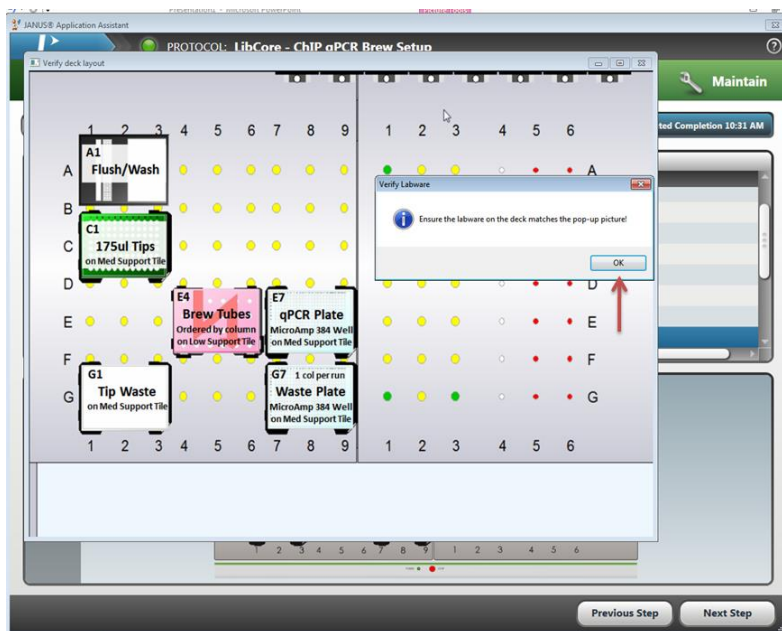
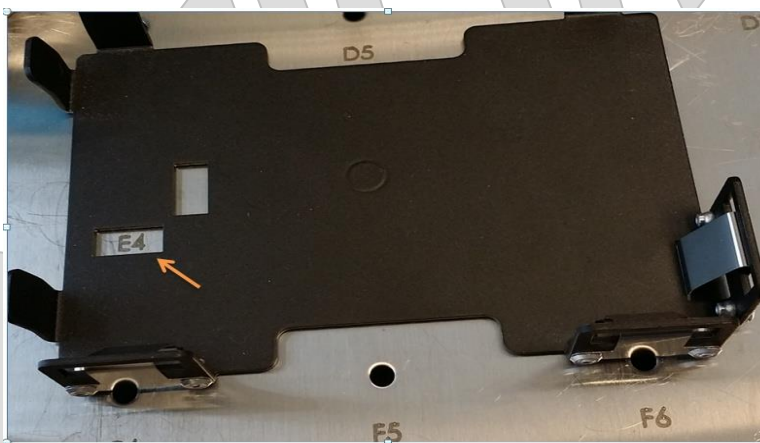

Figure 11: Deck layout
Figure 12: Correct grid position on the base
3.24. Set up the deck as illustrated in Figure 11. The deck illustration informs the user of the type of base to be used as well as the location on the JANUS, it has been placed in. Ensure the correct type of base is being used. Move the pop up window out of the way if it is blocking the set up view. **Clicking OK will initiate the run.** Ensure the bases for the plates and brew tubes are in the correct orientation and position. This is easily determined as the deck of the instrument is a grid. The grid positions can be visualized through the base (Figure 12).
3.27. Ensure the deck is set up correctly according to the deck layout illustrated in the JANUS Assistant software (Figure 11). Figure 15, is a snap shot of a correct layout.